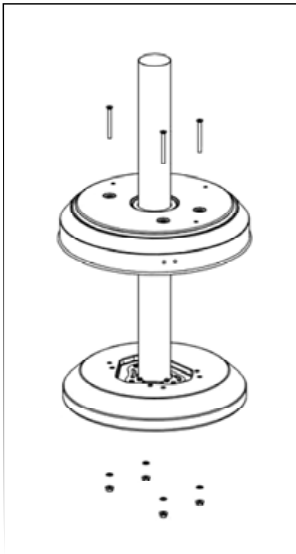

Figure 4
C. Attach the base over the post to the weighted box with 4pcs M8 bolts and 4pcs M8x55 bolts (Figure 4). Do not over-tighten the bolts, or **the black plate will warp underneath.**